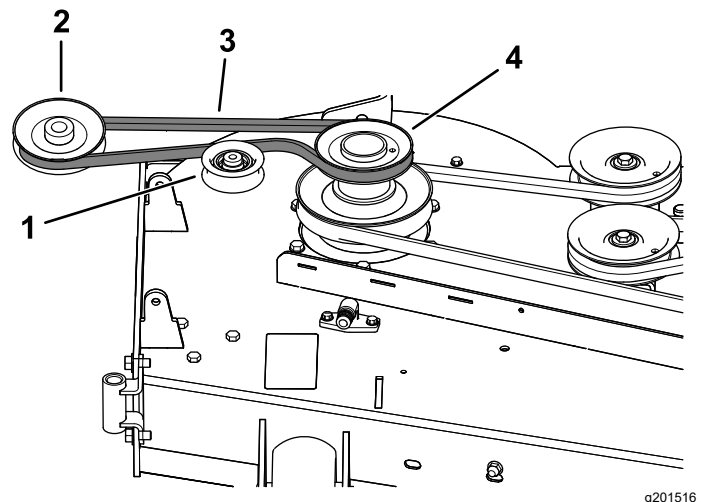
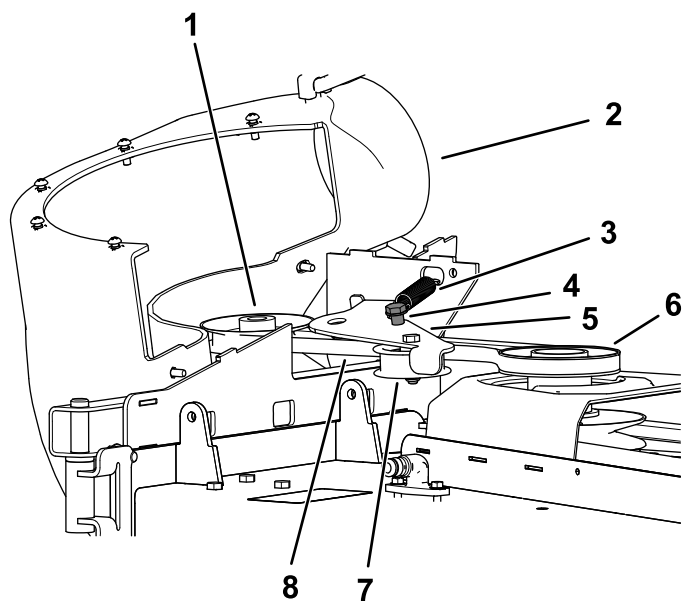

Figure 25
Figure 26
- If necessary, install the belt onto the blower pulley (Figure 25).
1. Install the belt around the blower pulley (Figure 25 and Figure 26); refer to 11 Installing the Blower Assembly (page 16).
3. Pull the spring loaded idler pulley away from the fixed spring post, and route the belt around the mower deck pulley (Figure 26).
4. Route the belt around the drive pulley as illustrated in Figure 25 and Figure 26.